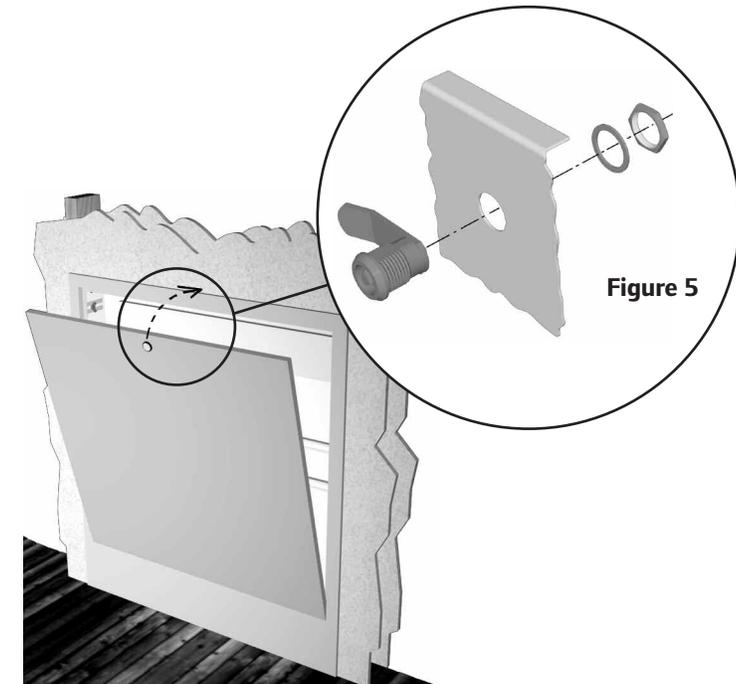

Figure 5
1. Mount the latch to the door using the supplied hardware. (See **Figure 5**.)